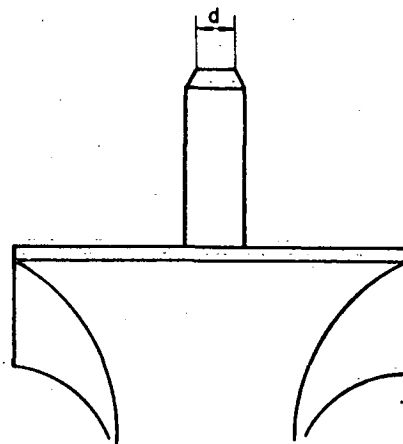

Fig. 2
- a) Chamfer the material to start the operation easier (Fig. 2).